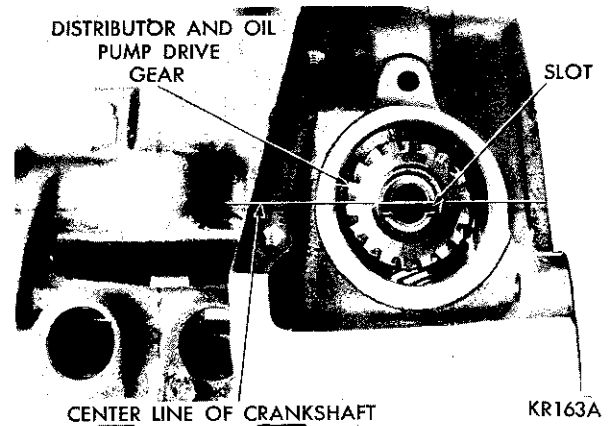

Fig. 34—Distributor Drive Gear Installed
- (1) Rotate the crankshaft until NO. 1 cylinder is at top dead center on the firing stroke.
- (2) When in this position, the straight line on the vibration damper should be under "O" on the timing indicator.
- (3) Coat the shaft and drive gear with engine oil. Install the shaft so that after the gear spirals into place, it will index with the oil pump shaft, so that the slot in top of the drive gear will be parallel with the center line of the crankshaft, as shown in Figure 34.